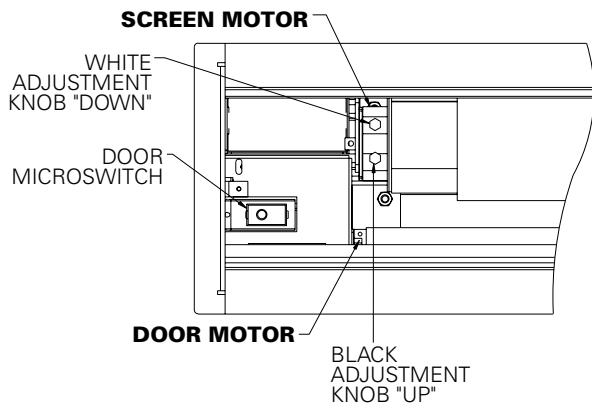

FIGURE 2
6. Carefully remove tape strips securing picture surface around roller. Slat should move freely (Fig. 2). (Only if the roller assembly is preinstalled.)
2. When the screen stops, turn the white "**down**" limit knob (Fig. 2) one-quarter turn counterclockwise. Test by raising picture surface approximately two feet, then lower again. Repeat until desired picture surface position is attained.
3. Turn the white "**down**" limit switch (Fig. 2) one-quarter turn clockwise. Test by raising picture surface approximately two feet, then lower again. Repeat until desired picture surface position is attained.